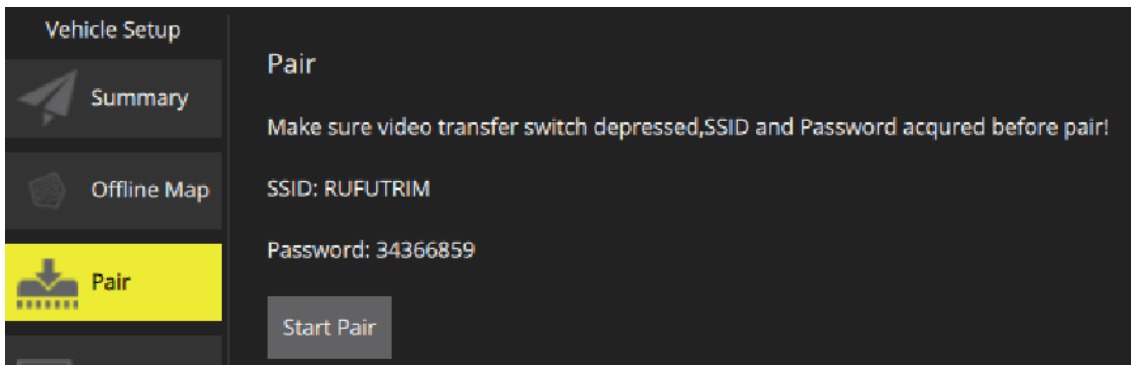

Figure 4-1
Step 2 After finding “Network Name” on the “Pair” interface, enter corresponding “Password”. “Pair” interface of ground control station is shown in Figure 4-1.